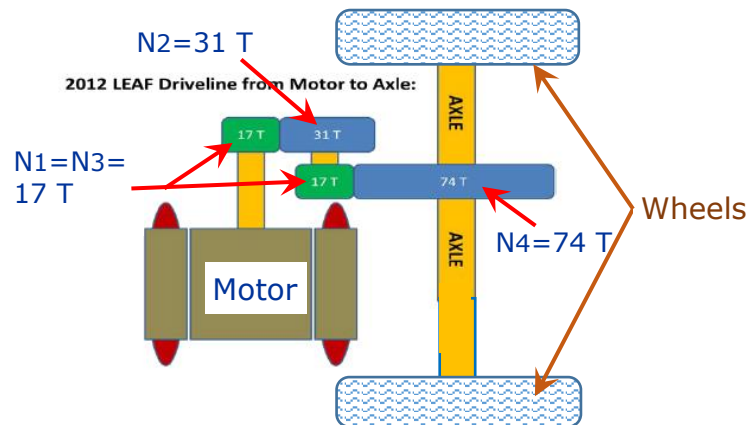

Figure Q2-1
- (b) Figure Q2-1 shows a schematic of the gearbox, a two stage gearbox (a compound train), for Nissan Leaf pure electric cars. The numbers of teeth of the gears are $N_1=N_3=17$, $N_2=31$ and $N_4=74$. A maximum power of $P = 90$ kW is achieved when the motor rotates at a speed of n_{motor} (n_1) = 6,500 rpm. A module of $m=3$ mm is chosen for the 1st stage of the gear pair (gears 1 and 2) and the face width of gear 1 is $F=35$ mm.